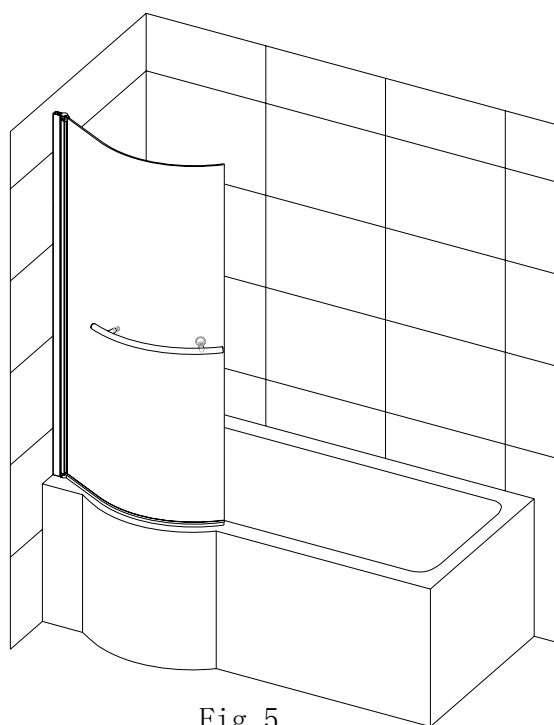

Fig. 5
- 5) Install the anti-water strip of bottom and towel bar on the glass door. As Fig.5